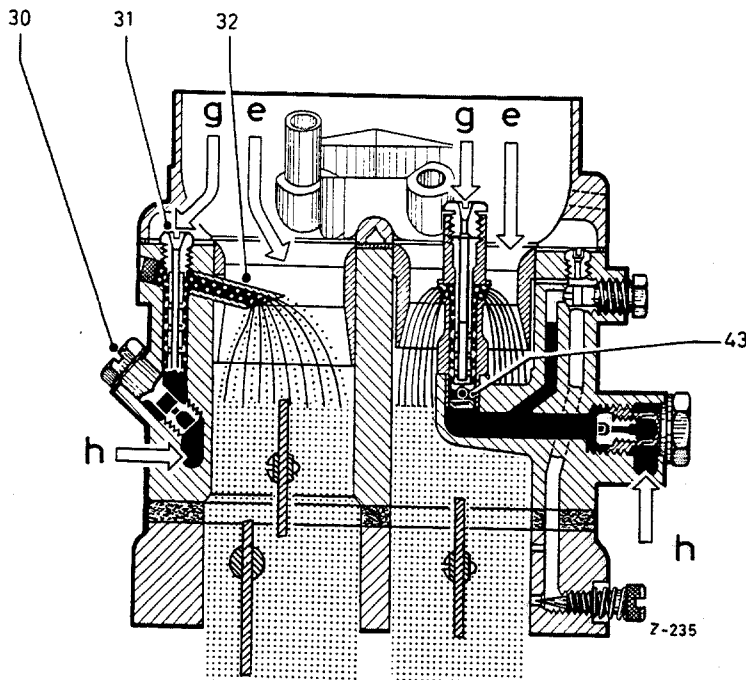

Fig. M 31 S/016
As the engine speed increases in the full-load range, the degree of depression in Stage 2 also increases and in consequence, the vacuum valve opens. Fuel-air mixture is now supplied by both stages (Fig. M 31 S/016). The mixture is supplied from Stage 2 via the main jet (30), the mixing tube with air correction jet (31) and the exhaust tube (32).